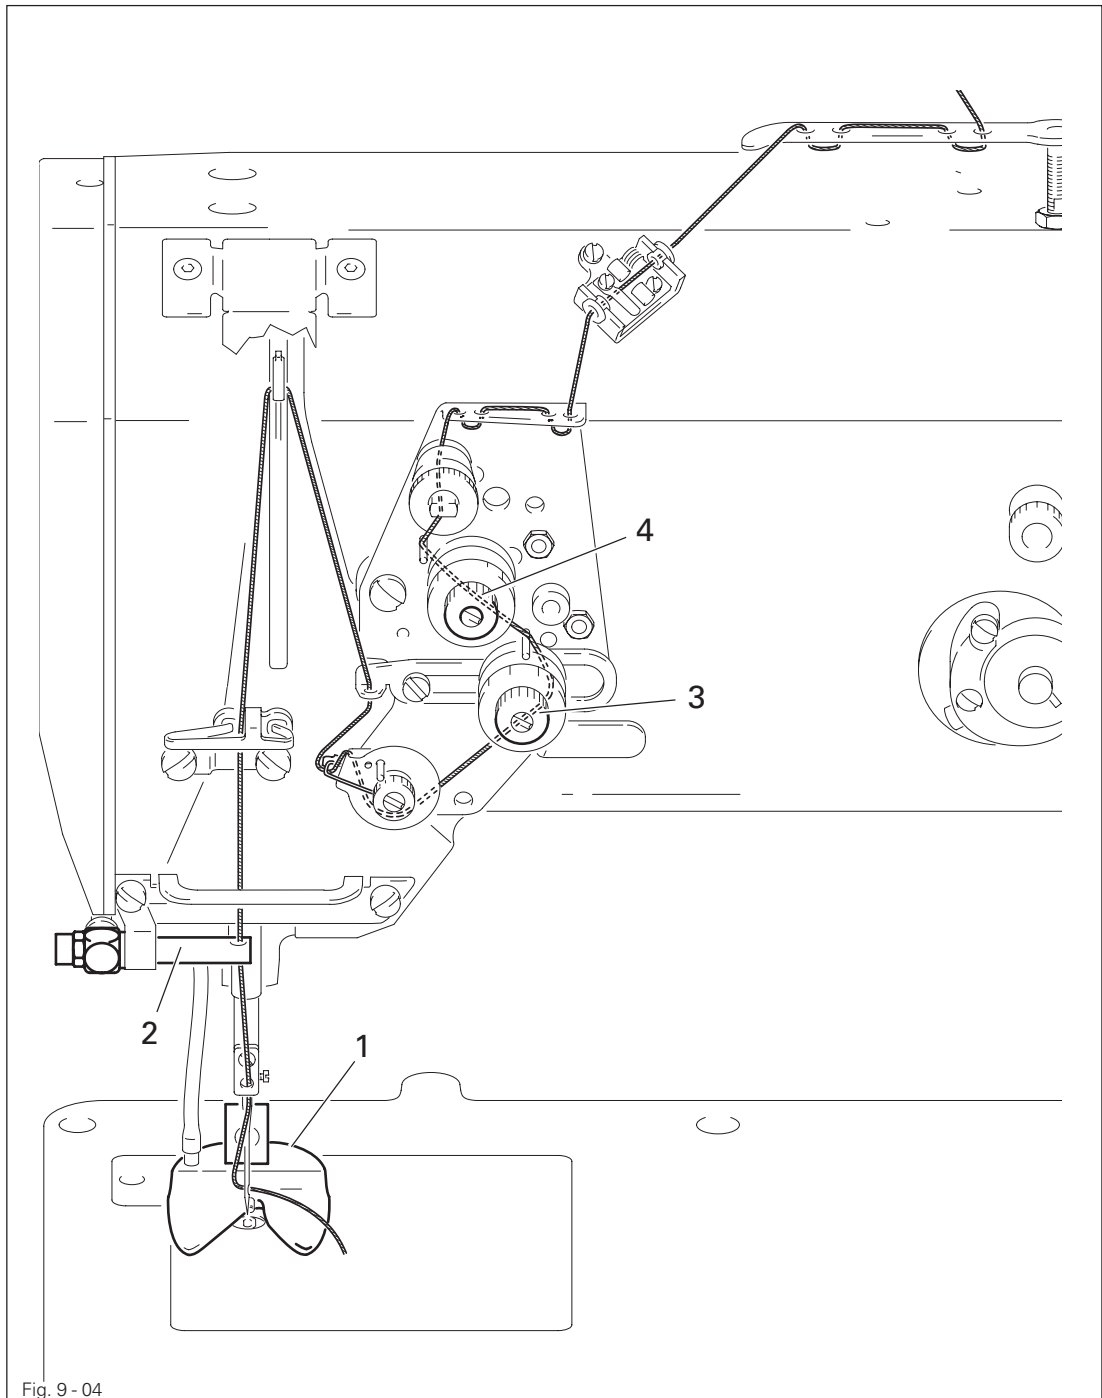

Fig. 9-04
- Thread the needle according to Fig. 9-04.
- Raise presser foot 1 (number key 2).